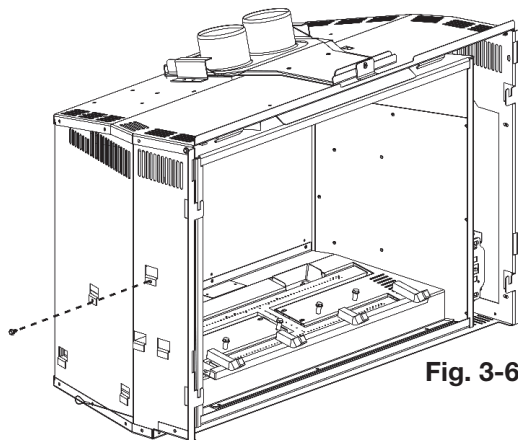
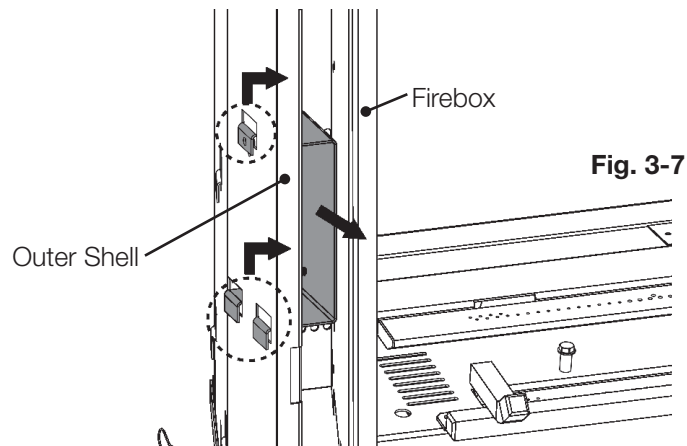

Fig. 3-6
Fig. 3-7
2. Remove the 1 screw holding the bracket in place (**Fig. 3-6**). Lift the bracket up and out of the slots, lifting it through the opening between the firebox and the appliance's outer shell (**Fig. 3-7**).
4. Place the bracket and receiver back through the opening between the firebox and the appliance's outer shell. Slide the bracket and receiver into and down the slots (**Fig. 3-7 in reverse**).
5. Resecure the 1 screw to hold the bracket and receiver in place (**Fig. 3-6**).